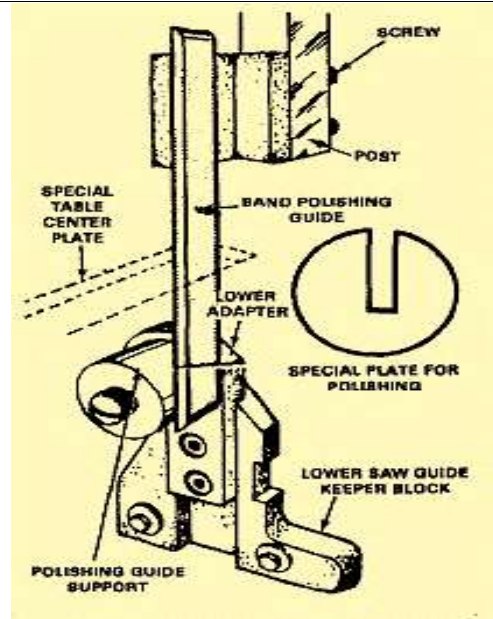

Figure 6-11. Polishing attachment installed on a band sawing machine.
**Polishing Attachment:** The polishing attachment (Figure 6-11), similar to the band file attachment, provides support for the polishing band. The polishing band plate acts as a solid backing for the polishing band to prevent stretching and distorting the band when the workpiece is held against it. Use a polishing band filler plate to fill the table slot so the workpiece can be supported close to the polishing band.